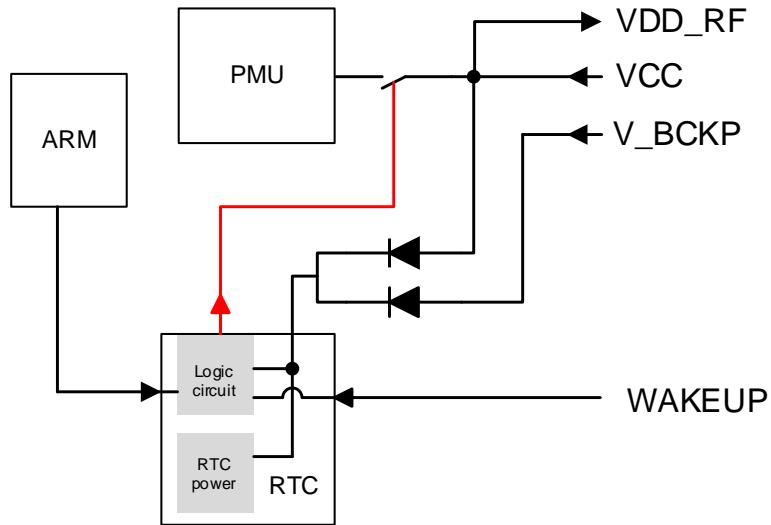

Figure 3: Internal Power Supply
The two diodes in the following figure construct an OR gate to supply power for RTC domain. WAKEUP pin belongs to RTC domain. The signal shown as red line in Figure 3 can open and close the switch. The following steps will close or open the switch:
- Keep the WAKEUP pin open or low (the signal shown as red line in Figure 3) and send software command to enter Backup mode. The only way to wake up the modules is by pulling the WAKEUP pin high (signal shown as a red line in Figure 3 ). For more information about the command, see [document \[1\]](#).